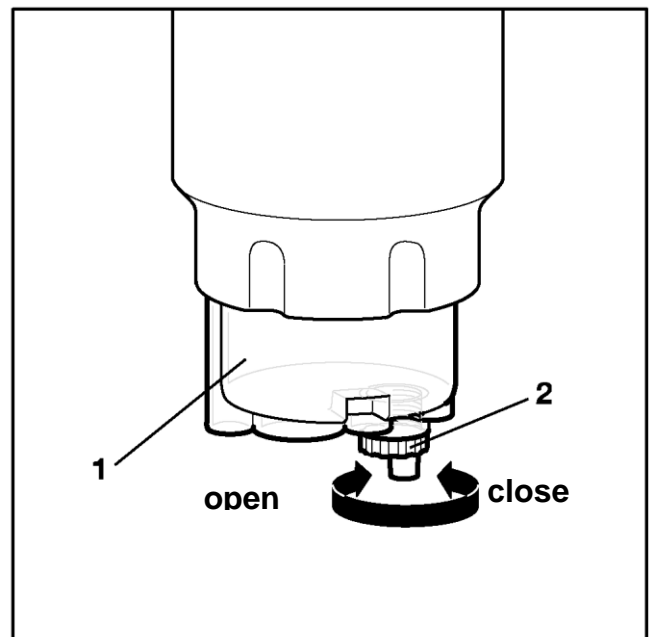

Fig. 4 Draining water
- Unscrew the drain plug (Pos.2, Fig. 4) at the bottom of the water collecting tank (Pos. 1, Fig. 4) and let the water drain out.
- Screw the drain plug (Pos.2, Fig. 4) shut again.
- Ensure that the water drain plug is closed (also refer to Fig. 4).